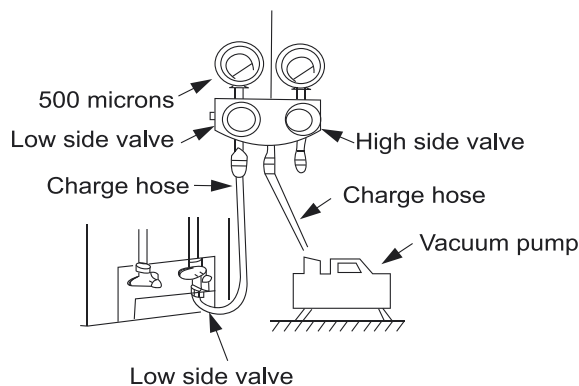

Fig. 24 —Manifold
1. Completely tighten flare nuts A, B, C, D. Connect the manifold gage charge hose to a charge port of the low side service valve (see Fig. 24).